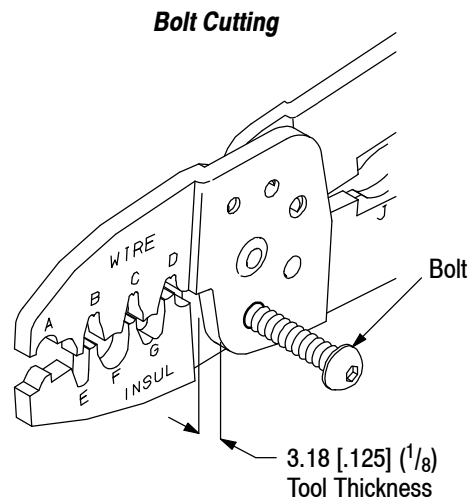

Figure 3
1. Thread the bolt into the side of the tool marked “INSERT SCREW.” To cut the bolt to the required dimension, allow 3.18 [.125] (1/8) for tool thickness. Refer to Figure 3.